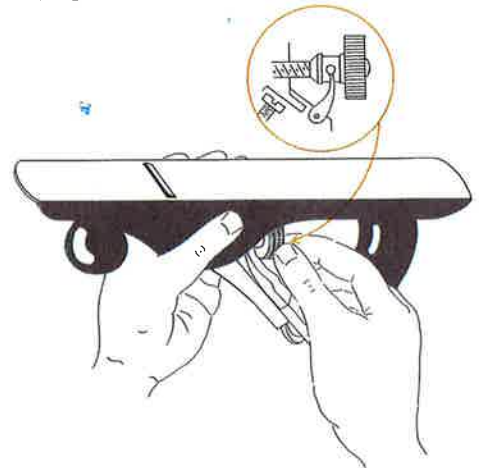

Fig. 9-16. Adjusting the plane iron for cutting depth.
2. Set the cutting depth with the adjustment nut near the handle. Move the nut right or left until you get the correct depth (Fig. 9-16).